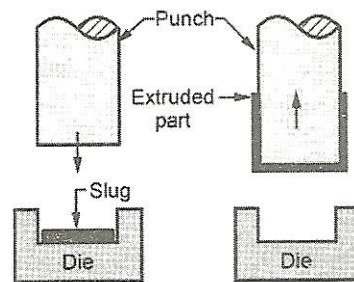

Fig. 3.49 : Principle of impact extrusion
- The slug is placed in the die and struck from top by the punch operating at high pressure and speed. Refer figure 3.49.